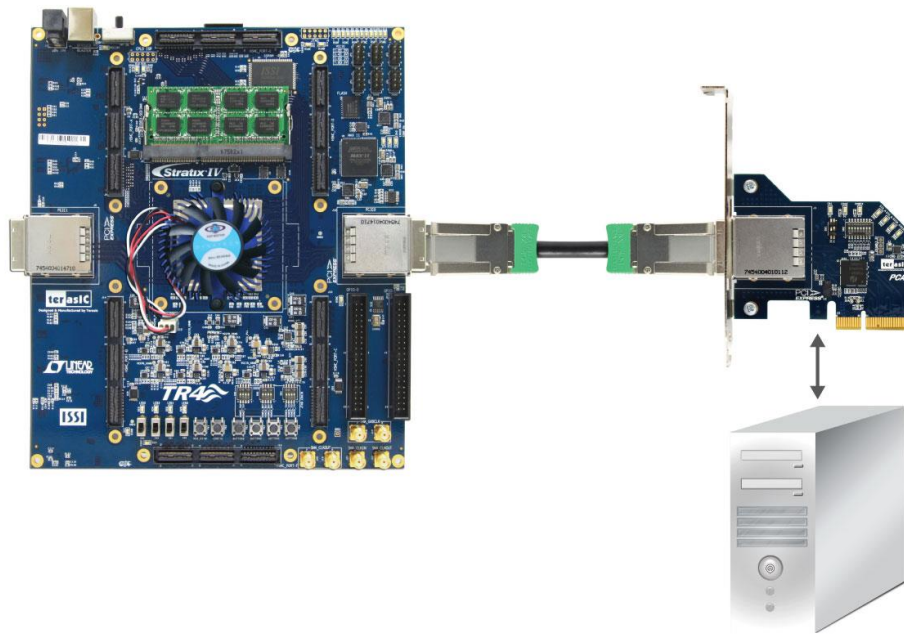

Figure 6-12 PCIe Fundamental Communication Demonstration Setup
- Use the PCIe cable to connect to the TR4 PCIe0 connector and PCIe adapter card as shown in **Figure 6-12**
- Use the PCIe cable to connect the TR4 PCIe0 connector and PCIe adapter card as shown in **Figure 6-12**